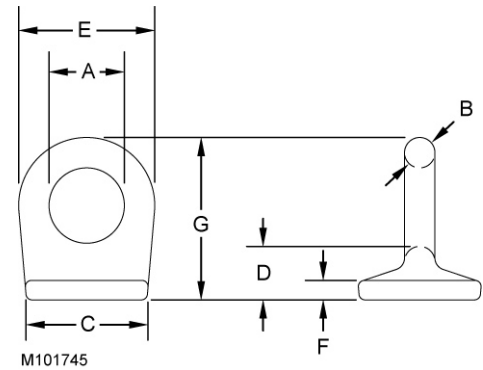

FIGURE 4-163
See Figure 4-163
1. Do not exceed the approximate capacities listed in Figure 4-163.
2. Make sure the rigging line and the attaching hardware (clips and rope connectors) are rated for the approximate capacities shown in Figure 4-163.